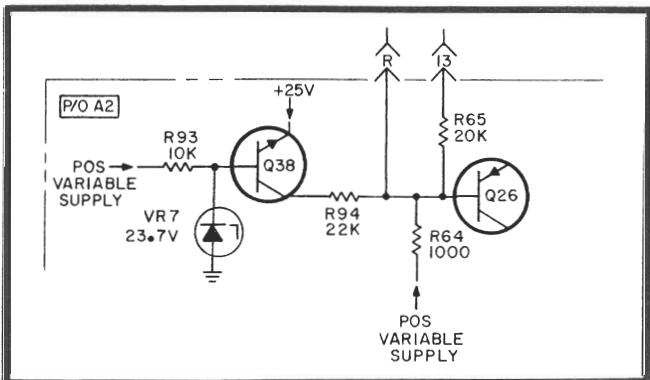

FIGURE 1
- Make the schematic changes shown in Figure 1 and 2.